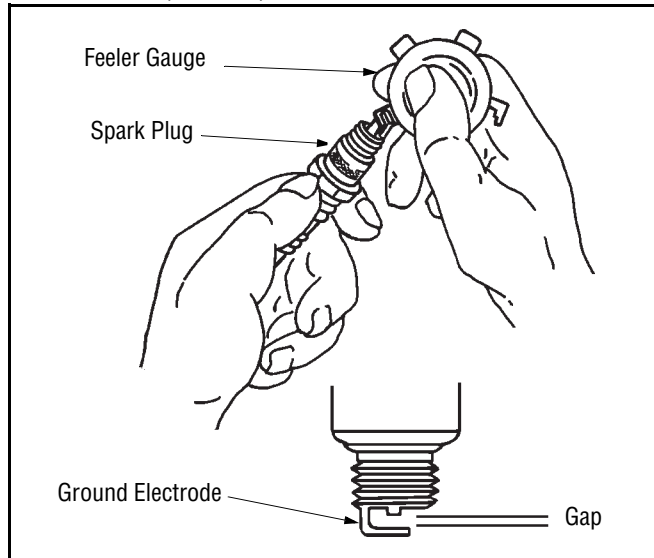

Figure 14
- Check the gap using a feeler gauge and adjust, if necessary, by carefully bending the ground electrode. See Figure 14. Set the spark plug gap to 0.030 in. (.76 mm) .